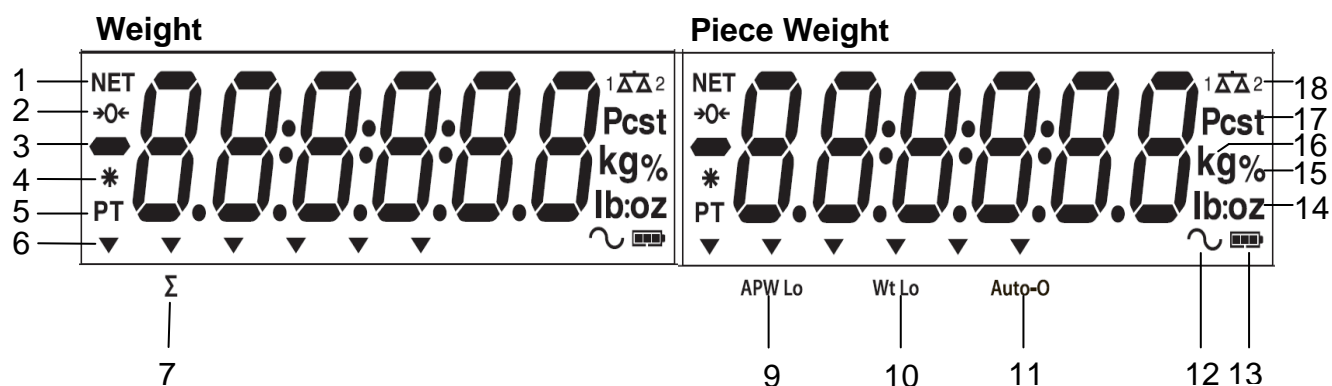

Figure 3-2. LCD Displays
The scale can be used on AC power immediately. Allow the battery to charge for 12 hours before using the scale on battery power. The scale will automatically switch to battery operation if there is a power failure or the power cord is removed. With AC power, the scale is constantly charging, so the battery charge indicator (see item 10 in figure 3-2) will remain lit. The scale can be operated during charging, and the battery is protected against overcharging.